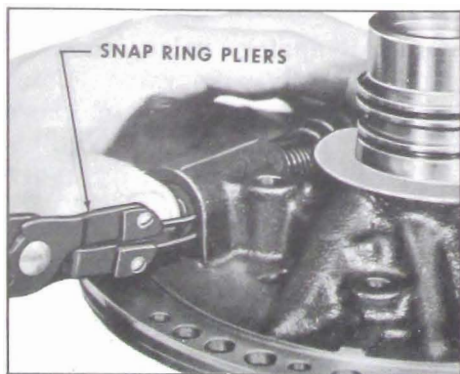

Figure 5-204
6. Compress reverse and modulator boost valve with thumb, then install retaining snap ring. See Figure 5-204.